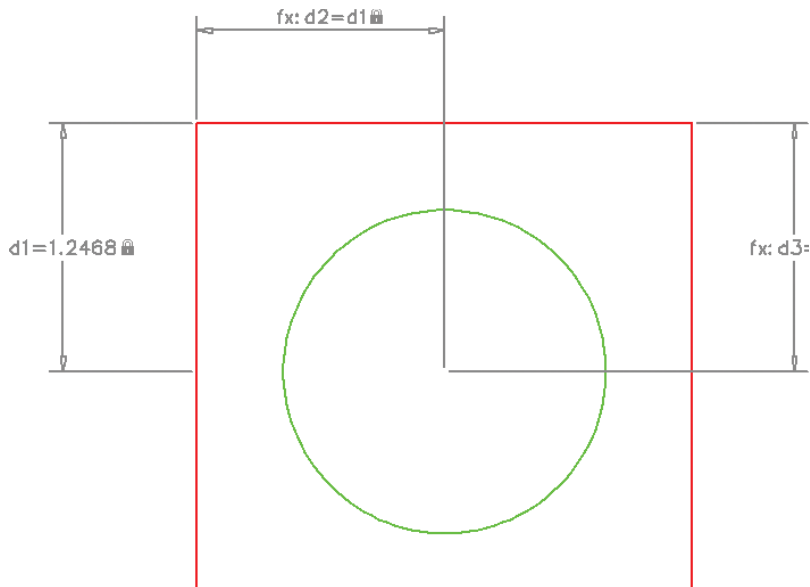

FIGURE 12.7 Adding another linear constraint that is calculated by a function
7. Press the spacebar to repeat the DCLINEAR (for Dimensional Constraint Linear) command. Click the first constraint point in the upper-right corner of the rectangle. Click the circle to accept its center as the second constraint point. Move the cursor to the right, and click to place the vertical dimension line to the right of the rectangle. Type **d3=d1**, and press Enter. The circle is now centered within the square (see Figure 12.7).